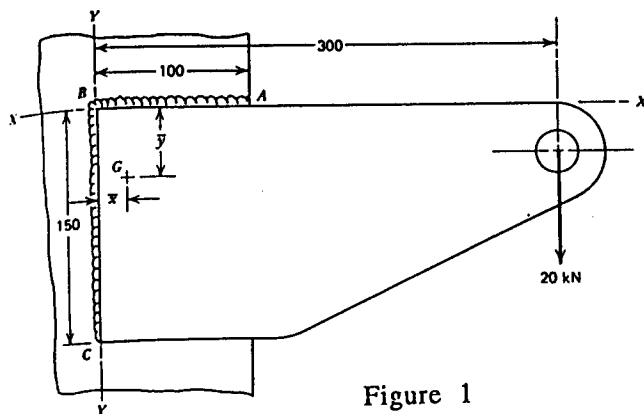

Figure 1
2. Determine the required weld size for Fig. 1 using E60 welding rod ($S_y = 345$ Mpa) and safety factor of 2.5. Notice that an appropriate static failure theory should be used, and the weld size should be specified as an integral number of mm. (20%)